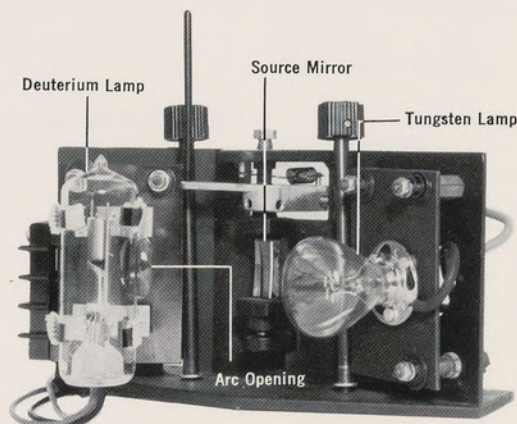

Figure 26. Front View of Source Lamps
7. Wrap the lamp with a cloth and place it between the clamps, orienting the arc opening toward the source mirror, Figure 26. Adjust the lamp vertically so that the arc opening is centered on the mirror. Now tighten the clamp screws but do not overtighten.